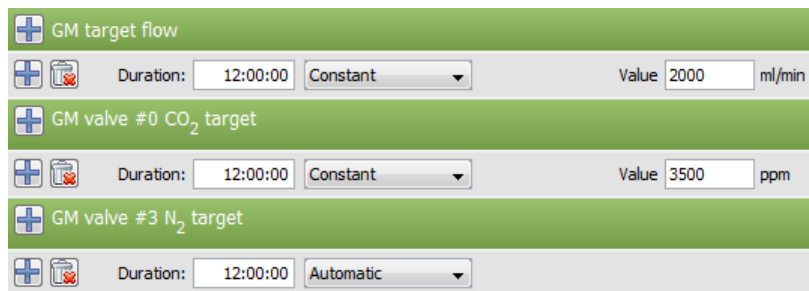

Fig. 33: Gas Mixer protocol in percent mode
- **Percents** – in this mode the absolute target flow must be set in protocol. The valve flows are specified as concentrations (in % or ppm). All valves must be configured in protocol, that means none can have empty protocol. At least one valve must be configured as “Automatic”. Automatic phase will compute valve flow based on target flow and other valves concentration. Or rather, the automatic valve concentration will be the remaining value such as sum of concentrations from all valves is 100%. See Fig. 33 for example of percent mode in protocol.